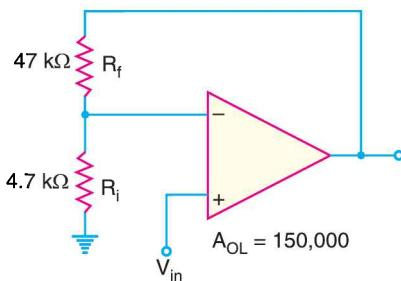

**Fig. 25.100**
6. For the circuit shown in Fig. 25.100, determine (i) common-mode voltage gain (ii) differential-mode voltage gain (iii) CMRR.